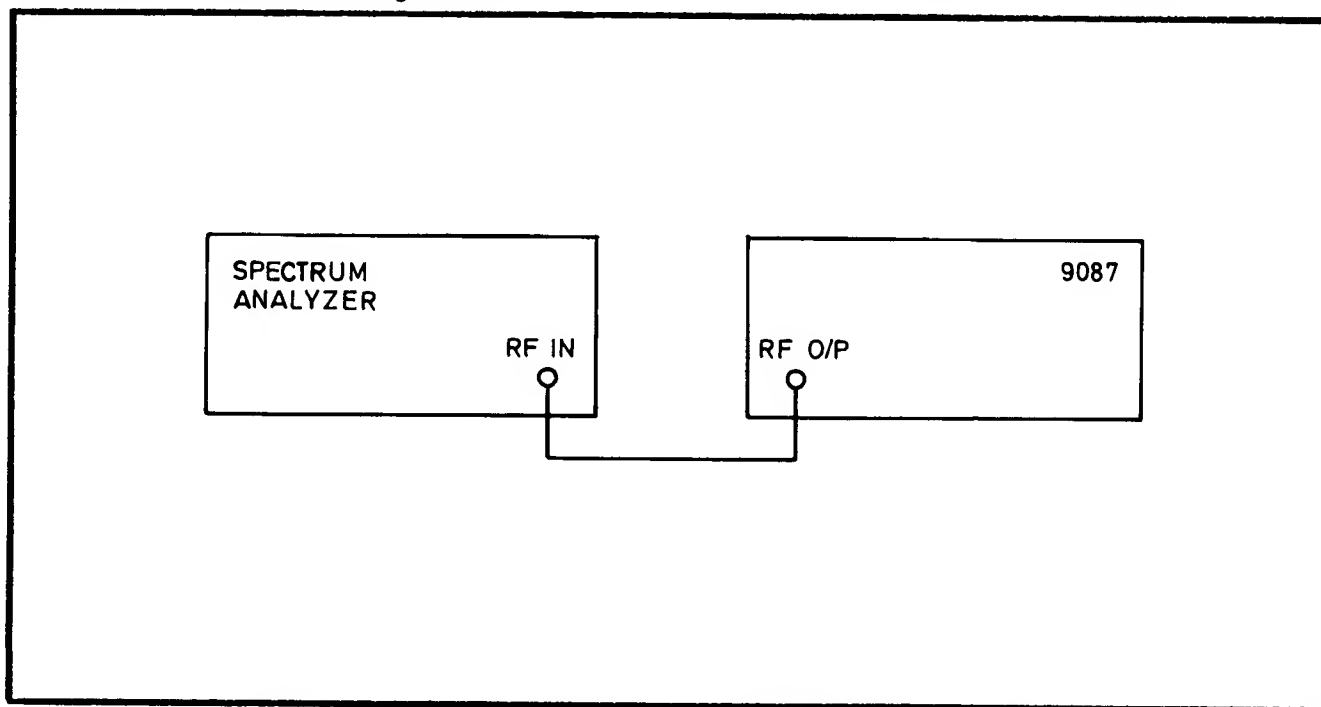

Fig. 7.25 Connections for Spectral Purity PVP
7.9.2.8.2 This PVP assesses the 9087's frequency response at frequencies where spurious and harmonic signals are most likely to be generated. Connect the test equipment as shown in Fig. 7.25.